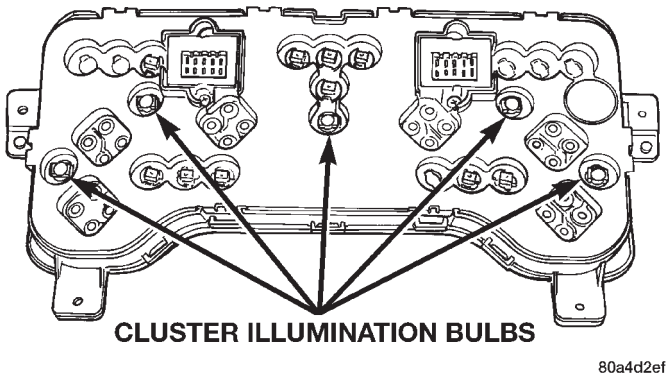

Fig. 10 Cluster Bulb Locations
- (1) Disconnect and isolate the battery negative cable.
- (2) Remove the instrument cluster from the instrument panel. Refer to **Instrument Cluster** in the Removal and Installation section of this group for the procedures.
- (3) Turn the bulb holder counterclockwise about sixty degrees on the cluster electronic circuit board.
- (4) Pull the bulb and bulb holder unit straight back to remove it from the bulb mounting hole in the cluster electronic circuit board (Fig. 10).